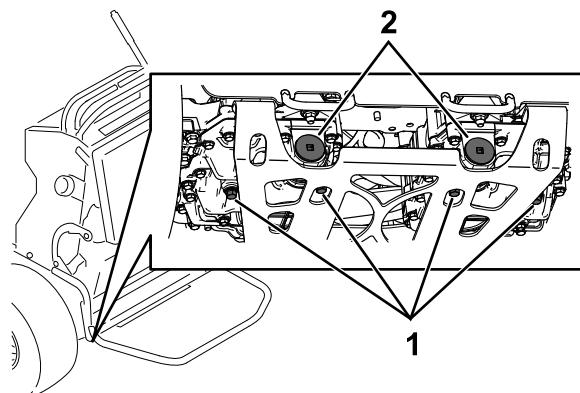

Figure 76
- Locate the drain plug in the bottom of each transmission and place a drain pan under the plugs (Figure 76).